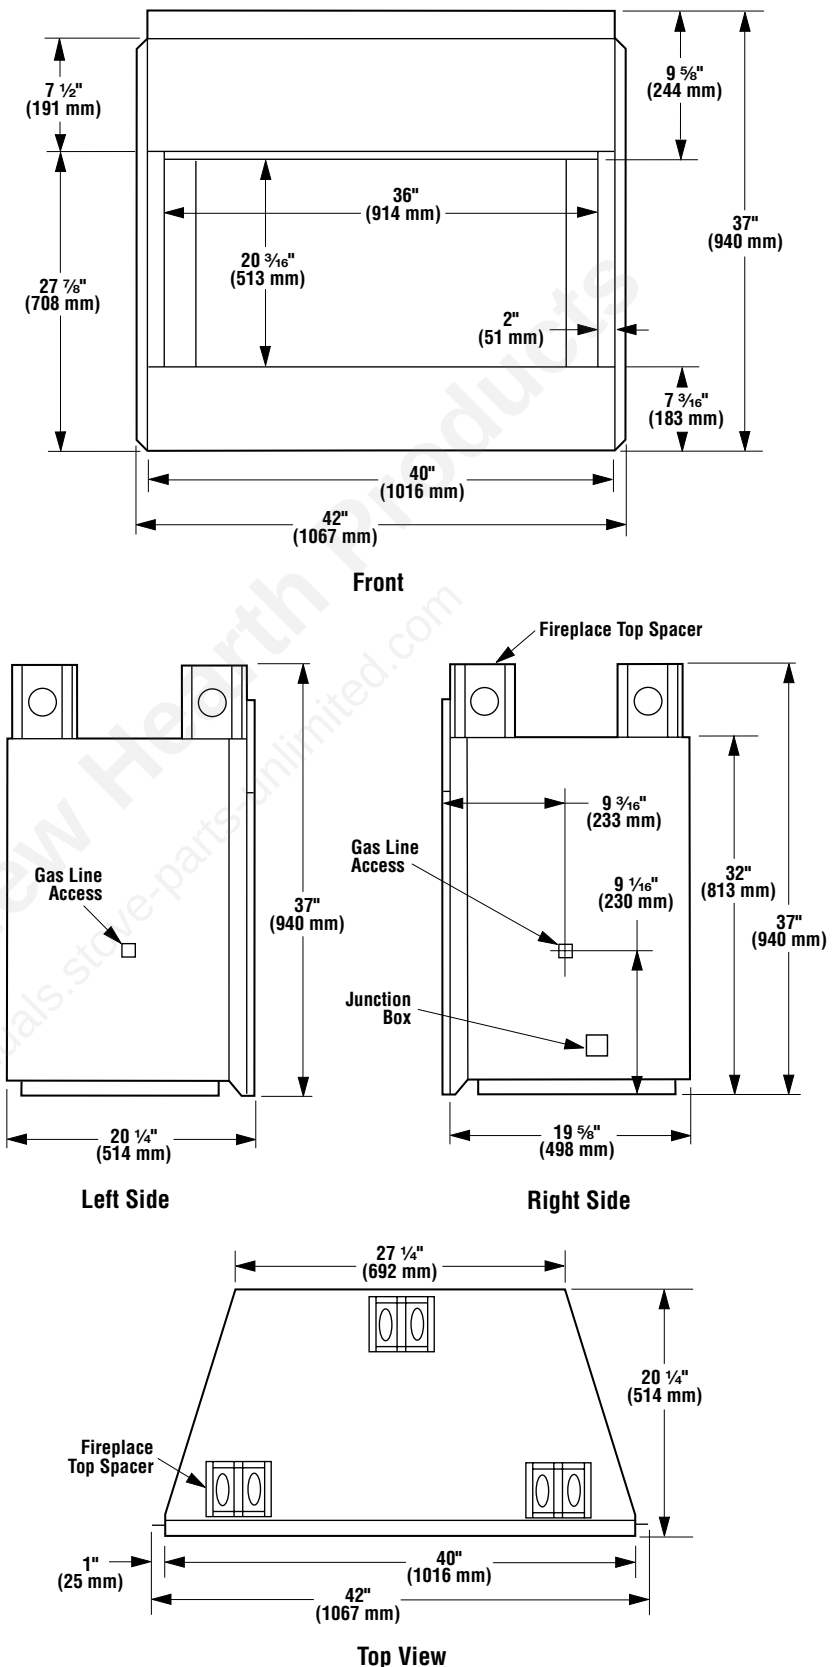
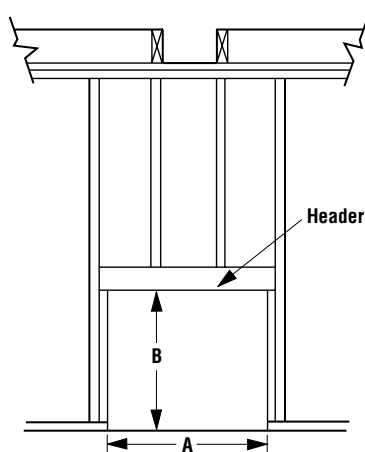

Figure 4
Figure 6
Construct firebox framing following *Figures 6 through 8* and the chart on page 8 for your specific installation requirements. Refer to *Figures 4 and 5* on pages 6 and 7 for firebox dimensions.
Step 2. Refer to firebox and framing specifications on pages 6, 7 and 8 *Figures 6 through 10* for framing dimensions and details. Framing header may be positioned directly on the firebox top spacers.